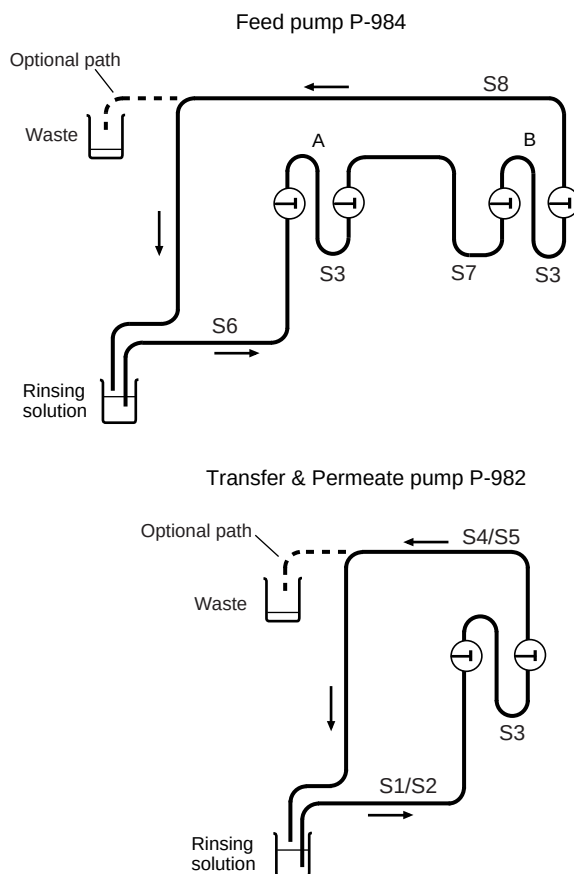

Fig 2-1. Piston rinsing system.
- 2 Insert the rinsing inlet and outlet tubing ends into the rinsing solution, see Fig. 2-1.